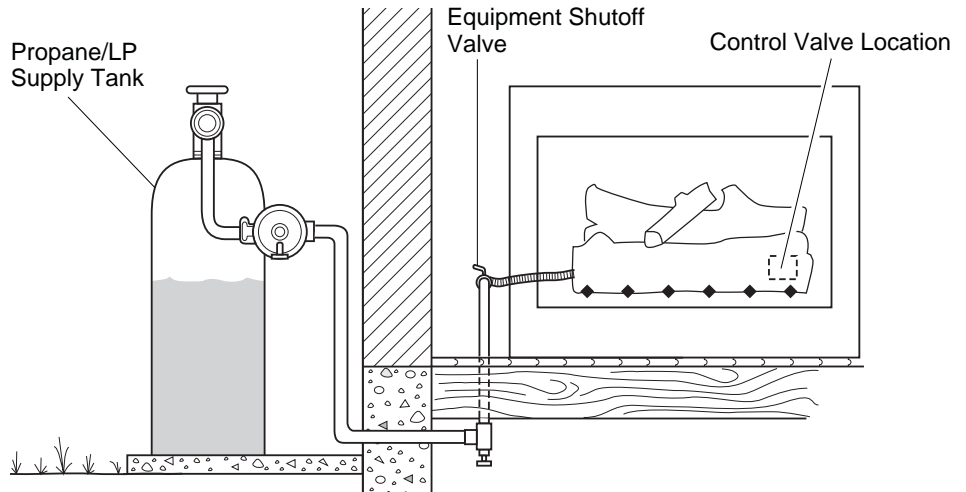

Figure 17 - Checking Gas Joints
3. Check all joints from propane/LP supply tank to equipment shutoff valve (see Figure 17). Apply a noncorrosive leak detection fluid to gas joints. Bubbles forming show a leak.
4. Check all joints from equipment shutoff valve to control valve (see Figure 17). Apply a noncorrosive leak detection fluid to gas joints. Bubbles forming show a leak.